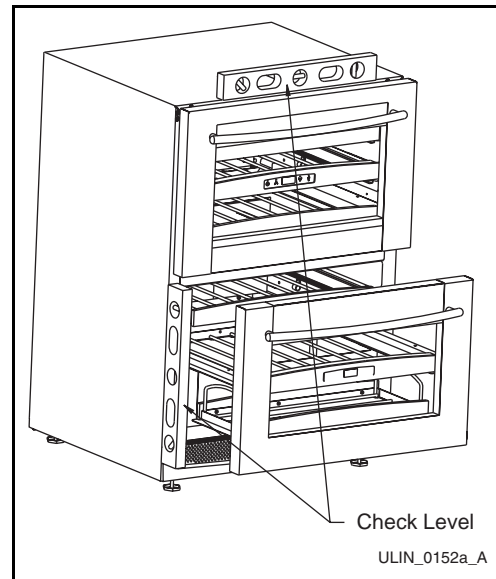

Figure 13
1. Use a level to check the levelness of the unit from front to back and from side to side. Level should be placed along top edge and side edge as shown (**Figure 13**).